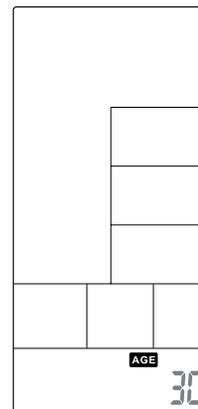

Figure 3
3. Enter your age by selecting AGE mode. The AGE value will flash (see Figure 3).